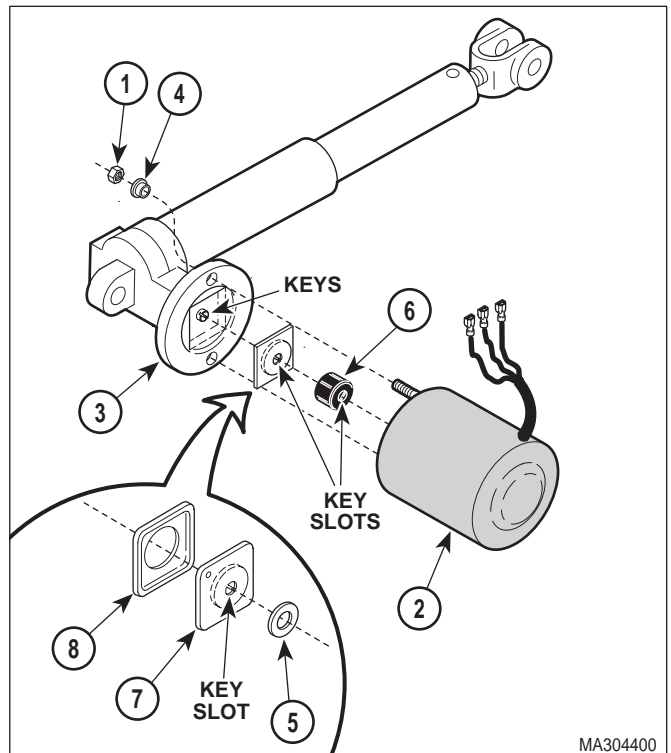

Figure 4-23. Actuator Motor / Actuator Brake Removal / Installation
- (2) Remove two nuts (1, Figure 4-23) and actuator motor (2) from actuator mechanism (3).
- (3) Remove two shoulder washers (4) from actuator mechanism (3).
- (4) Remove spacer (5) and motor coupler (6) from shaft of actuator motor (2).